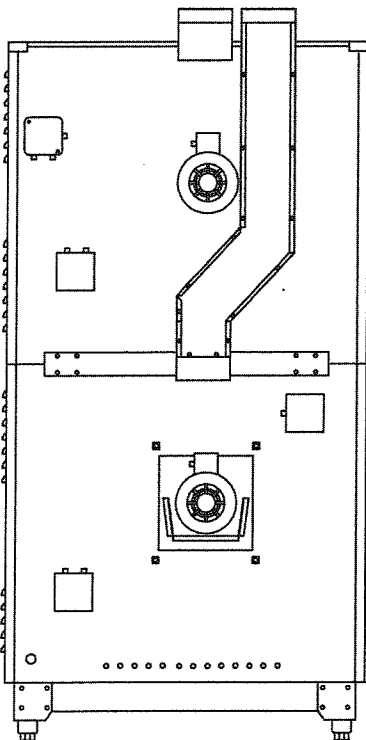

FIGURE 3
4. Assemble bottom flue extension as shown in figure 3.